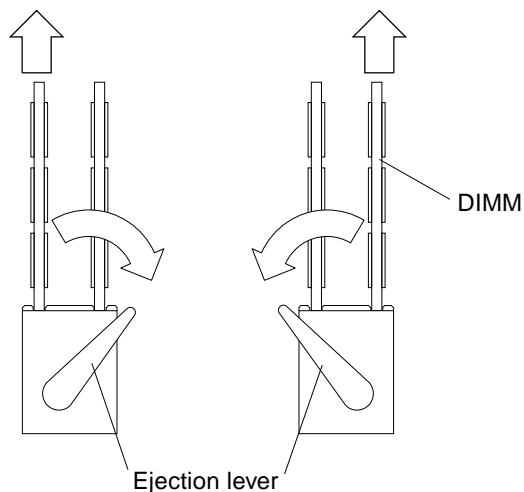

FIGURE 2-6 Ultra 2 DIMM Ejection Lever
3. Push the ejection lever away from the DIMM (FIGURE 2-6).